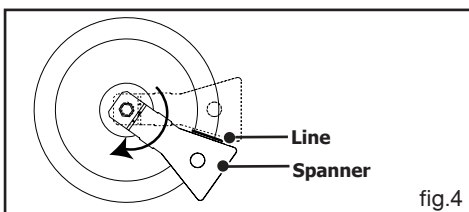

fig.4
- Turn the spanner clockwise until the line appears on the other side of the spanner (fig. 4).